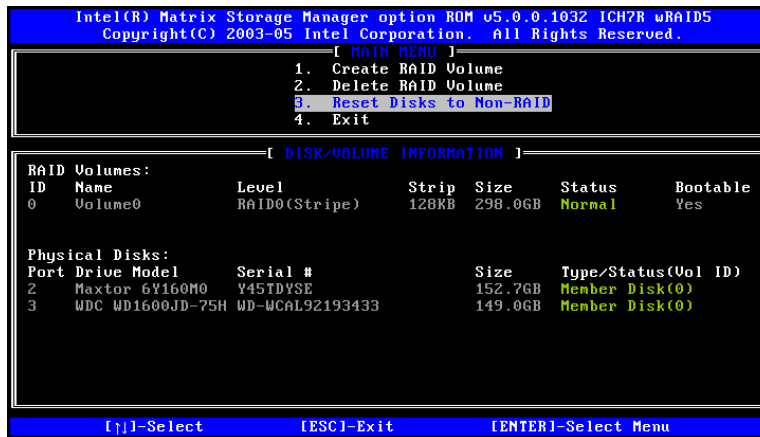

Figure F-12: Reset Disk to Non-RAID Menu
- Step 1:** Select “Reset Disk to Non-RAID.” Use the arrow keys to highlight Reset Disk to Non-RAID and press ENTER. See Figure F-12.